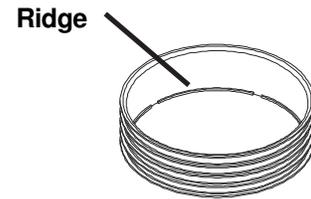

Fig. 8
5. Flip gasket over so that the internal ridge of the gasket will be towards the top of the plastic body. The ridge is at the bottom of the gasket from the factory. See Fig 8